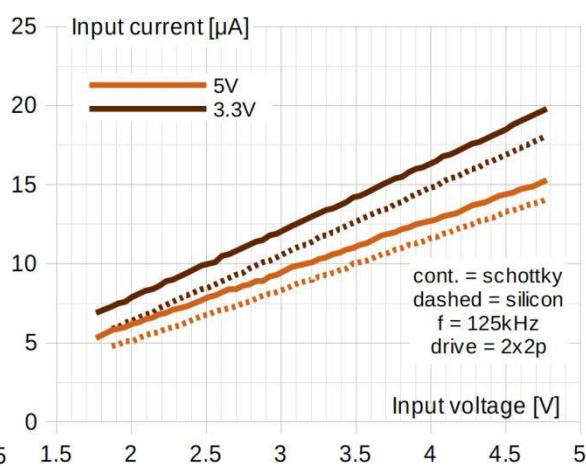

Figure 19: Shutdown Current
- Note 1** I_{shdn} : specified for SLG46533, see relevant datasheet for other Renesas parts; considers leakage and other parasitics outside GreenPAK negligible; for measured shutdown current which includes feedback current, leakages and other parasitic parameters in a real circuit, not just the GreenPAK IC, check Figure 19.